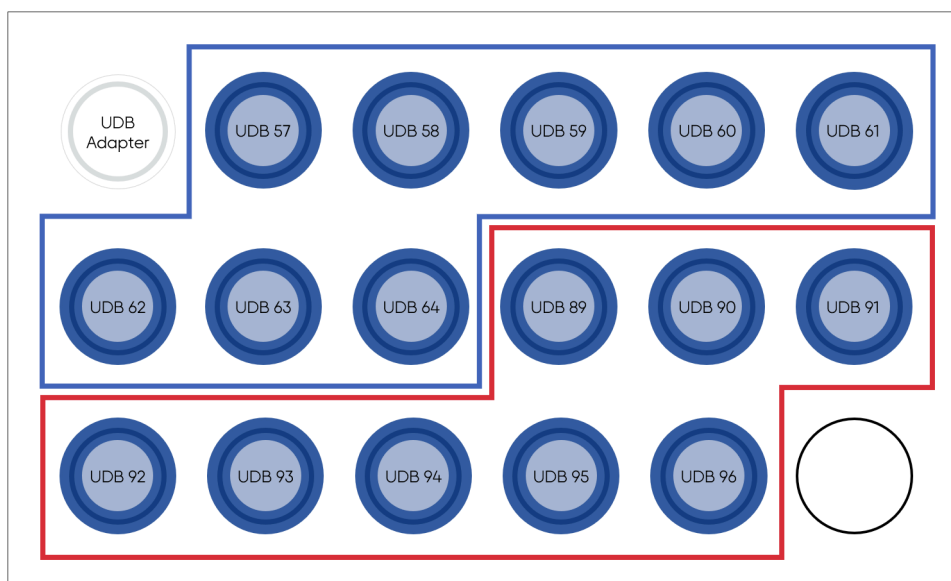

Figure 3 MGIEasy UDB Primers Adapter Kit (16 RXN) layout and combination instructions
- UDB PCR Primer Mix-57 to UDB PCR Primer Mix-64 (see the blue box in the Figure 3)
- UDB PCR Primer Mix-89 to UDB PCR Primer Mix-97 (see the red box in the Figure 3)